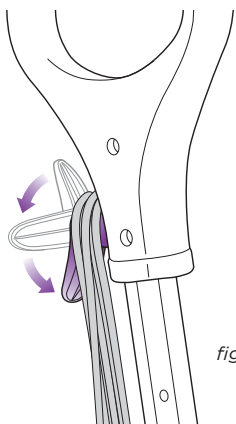

fig. 7
- 1 Pull and twist the quick release cord holder to unwrap the power cord completely. Plug into a 220-240-volt electrical outlet. (**fig. 7**)